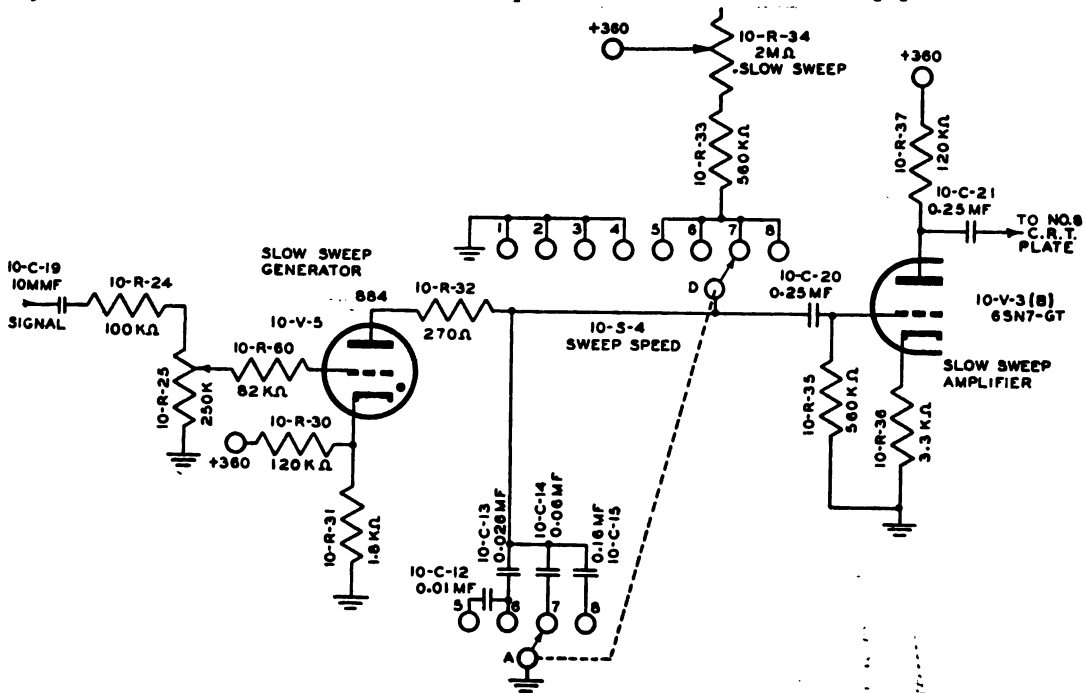

Figure 139. Slow sweep generator and slow sweep amplifier, simplified schematic diagram.
(6) *Slow sweep generator* (fig. 139). A standard sweep circuit using an 884 thyratron tube (10-V-5) generates a sweep continuously variable from 50 to 200 cycles. Four ranges are provided: 50 to 125, 80 to 240, 225 to 670, and 650 to 2,000 cycles, controlled by the SWEEP SPEED switch, and varied by the 2-megohm SLOW SWEEP control (10-R-34). Variable synchronization voltage is provided by taking a portion of the vertical signal voltage through the 250,000-ohm SYNC control (10-R-25), 100,000-ohm resistor (10-R-24), and 10-mmf capacitor (10-C-19). The amplitude of the sweep voltage fed through the 0.25-mf capacitor (10-C-20) to the sweep amplifier is approximately 15 volts.
(7) *Slow sweep amplifier* (fig. 139). This circuit uses a 6SN7 tube (10-V-3(B)) in a conventional Class A amplifier stage with some cathode degeneration to reduce the amplitude of the sweep. The tube gain would normally be about 20, but the degeneration reduces the stage gain to about 13; thus, the 15-volt sweep voltage input will produce approximately a 200-volt signal on the deflection plate of the cathode-ray tube. Since the horizontal sensitivity of the cathode-ray tube is 200 volts per inch, the sweep length will be about 1 inch for all slow sweep positions.